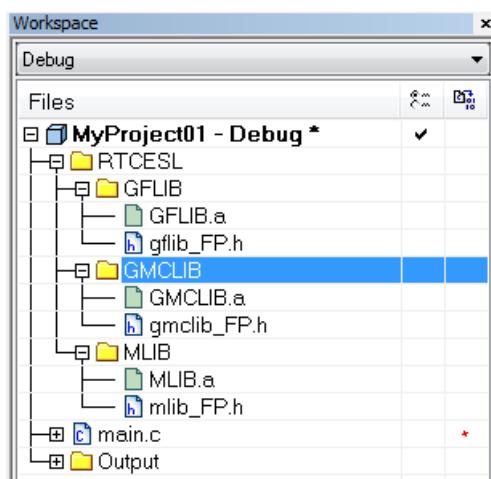

Figure 1-40. Project workspace
4. Click on the newly created node MLIB, and go to the main menu Project > Add Files... See Figure 1-40.
15. Now you will see the files added in the workspace. See Figure 1-40.